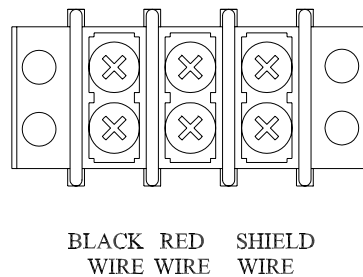

Figure 12 Control Cable Wiring Diagram
3. Connect the control cable to **Main Control** terminal block on the junction chassis according to figure 12.